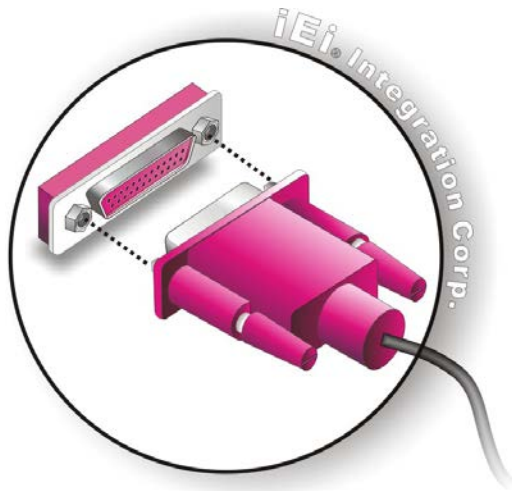

Figure 4-7: Connect the LPT Device
Step 5: Connect LPT device. Once the LPT interface connector is connected to the chassis, the LPT device can be connected to the LPT interface connector. See **Figure 4-7**